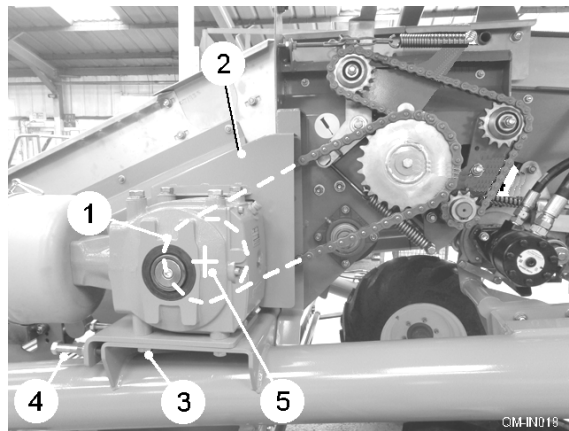

Fig. 10
The main web is available in 28mm, 32mm, 35mm, 40mm, 45mm and 50mm pitches. The speed of the main web can be altered by changing the gearbox sprocket (item 1, fig. 10). The standard 24 tooth sprocket can be replaced with an 18 tooth sprocket to give 75% web speed, or a 16 tooth sprocket to give 66% web speed. The alternative sprockets are supplied with the machine.
1. Remove the gearbox chain guard (item 2, fig. 10).
2. Loosen the gearbox mounting bolts x4 (item 3, fig. 10).
3. Loosen the chain tensioner screws x2 (item 4, fig. 10).
4. Remove the sprocket retaining screw and washer (item 5, fig. 10) and slide the sprocket from the shaft.
5. Fit the new sprocket and replace the retaining screw and washer (item 5, fig. 10).
6. Tension the chain by adjusting the screws (item 4, fig. 10). Ensure the sprockets run parallel to each other.
7. Retighten the gearbox mounting bolts (item 2, fig. 10).
8. Finally, refit the drive guard (item 2, fig. 10).